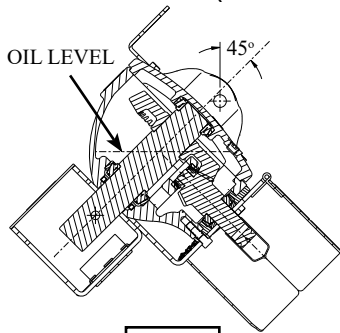

FIG. 4
**STEP 7:** Remove the fill plug at the top of the gearbox, and fill the gearbox with two quarts of multigear lubricant EP SAE 140 (or EP SAE 85W/140) **before operating the gearbox**. Tip the gearbox 45 degrees (avoid pinch points as gearbox pivots), and check the level at the plug (see FIG 4). **DO NOT OVERFILL!** Replace the plug before operating the digger.